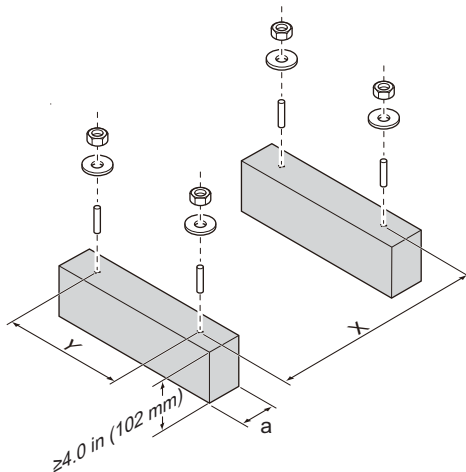

Fig. 34 —Build Concrete Base
- Build a concrete base according to the specifications of the outdoor unit (see the Fig. 34).
- Prepare four sets of M12 anchor bolts, nuts, and washers (provided on site), as shown in Fig. 34.
Table 22 — Dimensions for Fig. 34